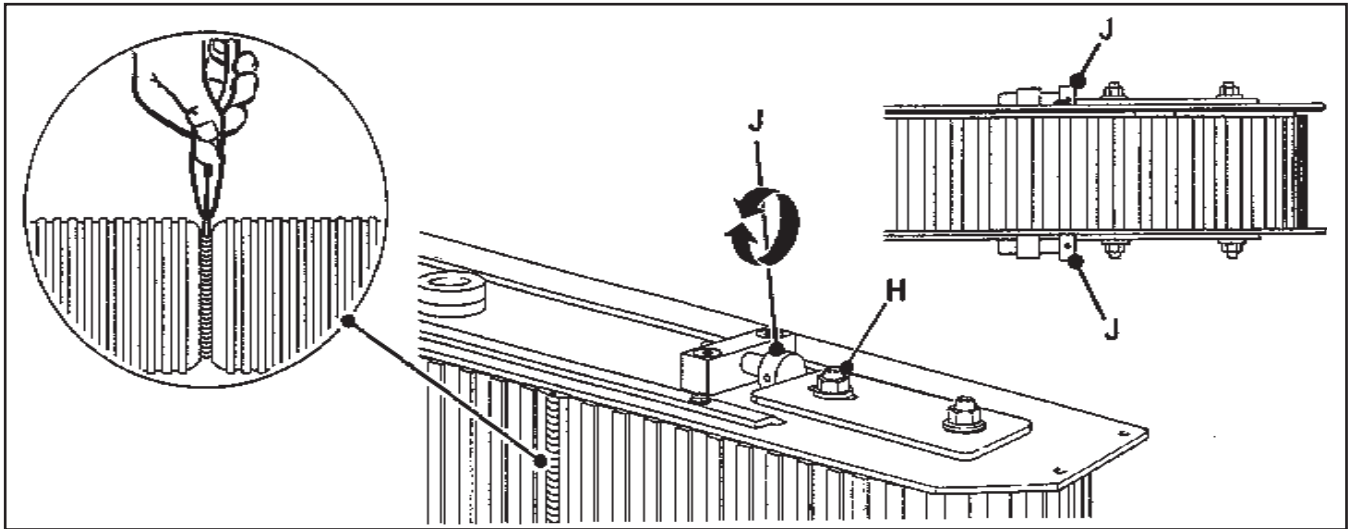

Figure 4-3 – Box Drive Assembly, Infeed End
10. Loosen, but do not remove lock nuts (H) on both the upper and lower belt tension assemblies. See **Figure 4-3**.
11. Turn belt adjustment screws (J) clockwise on both the upper and lower tension assemblies until belt is loose. See **Figure 4-3**.
14. To set drive belt tension, turn adjustment screws (J) equally on both the upper and lower tension assemblies. Turn the screws counterclockwise to increase tension or clockwise to decrease tension. See **Figure 4-3**.